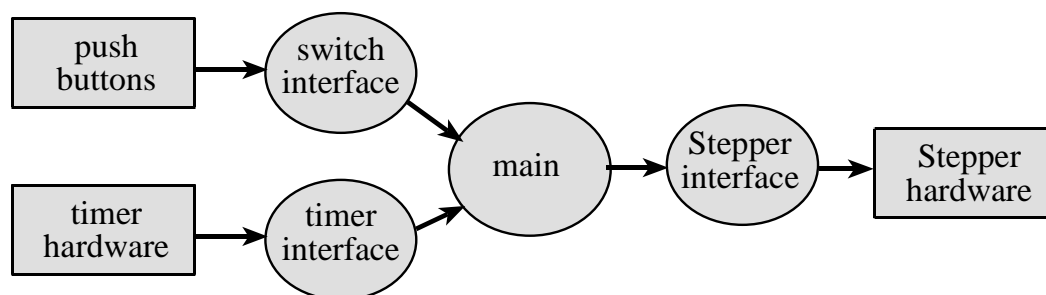

Figure 4.3. Data flows from the timer and the switches to the stepper motor.
Design the machine by first drawing the finite state graph. A “syntax-error-free” hardcopy listing for the software is required as preparation. This will be checked off by the TA at the beginning of the lab period. You are required to do your editing before lab. The debugging will be done during lab. Document clearly the operation of the routines. The periodic interrupt-driven background thread will execute the finite state machine, while the foreground thread initializes the system then does nothing. Figure 4.3 shows the data flow graph of the stepper motor controller.
- If you organized the system different than Figure 4.3 and 4.4, then draw its data flow and call graphs